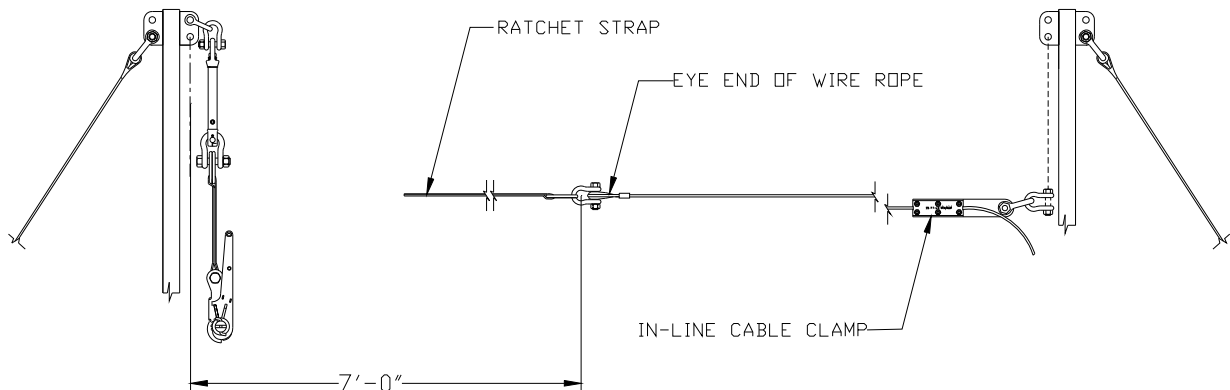

Figure 5
- Layout the horizontal lifeline cable on a flat surface near where the lifeline will be installed (directly below the I-beam where the stanchions will be installed) and remove all bends. Inspect cable for crush spots, broken wires, weld strikes, or any other deformity that may affect the integrity of the cable. Damaged cables must be removed from service immediately from service. Position the eye end of the wire rope so that it is about 7-ft. (see Figure 5) away from the location of one of the end stanchions.